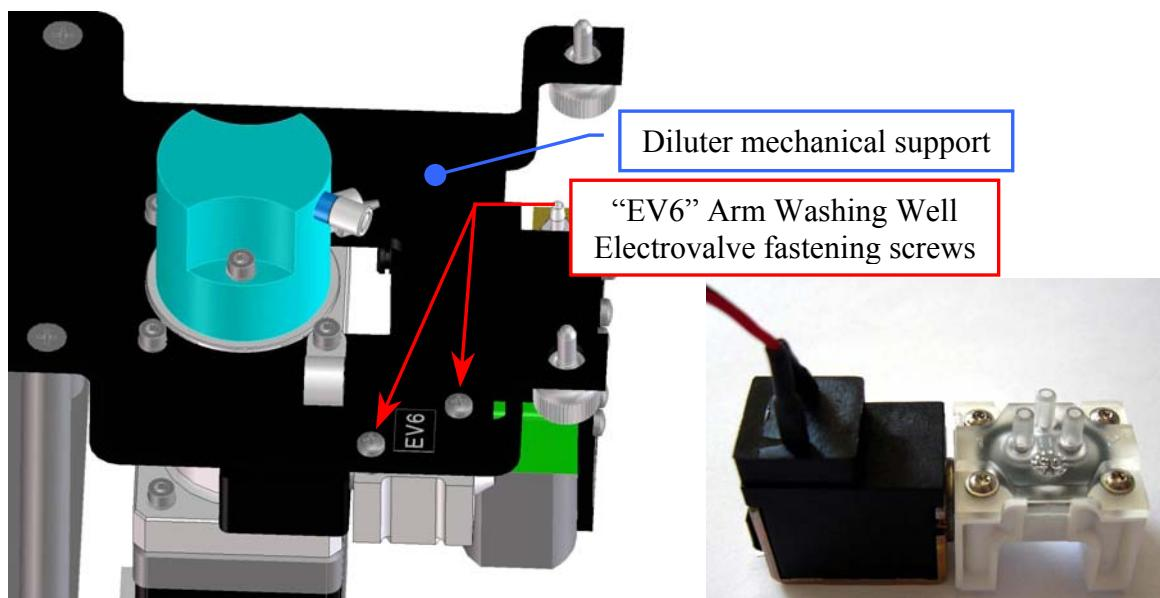

Fig. 43 – “EV6” Arm Washing Well Electrovalve fastening screws
4. Unscrew the two fastening screws of the “EV6” Arm Washing Well Electrovalve (**Fig. 43**) and take out it from the Diluter mechanical support.